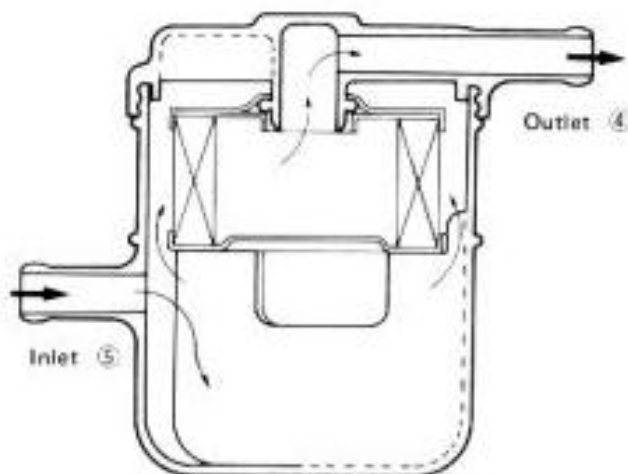

Fig. 5-11
Fig. 5-11, above, shows the fuel filter in its correct posture, with outlet ④ coming on top side and inlet ⑤ on bottom side. Remember the relative positions of inlet and outlet when piping the filter.